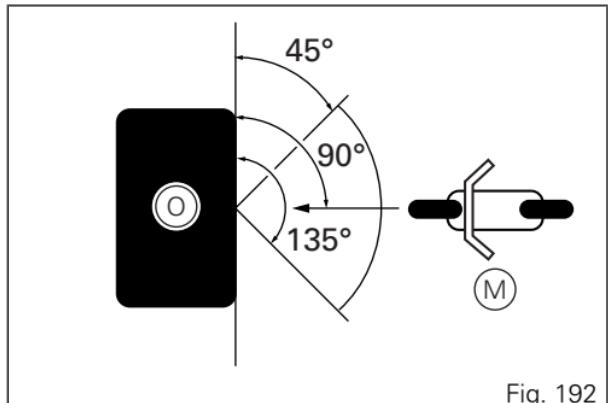

Fig. 192
Accident conditions, motorcycle impact (M) against an obstacle (O), for which D-Air® has obtained the certification by the TÜV SÜD, are shown in the figure (Fig. 192).